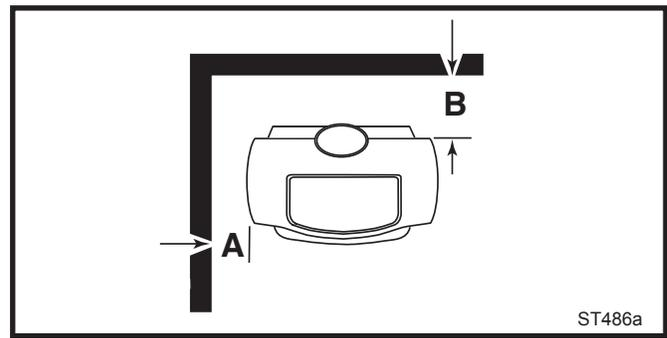

Fig. 11 Minimum clearances.
**Minimum rear clearance from combustible walls (e.g. timber framed or studded walls) 610 mm (24") measured from the rear edge of the stove top. (Fig. 11, B)**
**Minimum side clearance from combustible walls 610 mm (24") measured from the side edge of the stove top. (Fig. 11, A)**